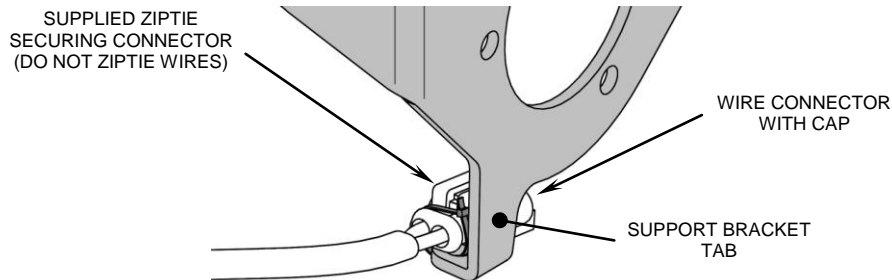

FIGURE 2
4. Join together the assembly from Step 3 with the supplied support bracket and gasket then start threading the (3) buttonhead bolts into the throttle body, but do not tighten.
5. Place a supplied o-ring onto both supplied breather bolts. Insert the breather bolts through the support bracket openings and into the cylinder heads and lightly snug. Now snug the (3) buttonhead bolts evenly, and then fully tighten them to the throttle body. Tighten the (2) breather bolts.
7. **For 2012 Dyna models** use the supplied ziptie to secure the wire connector/cap to the support bracket tab. See Figure 2. **NOTE: Secure ziptie around the connector, DO NOT ziptie around wires.**